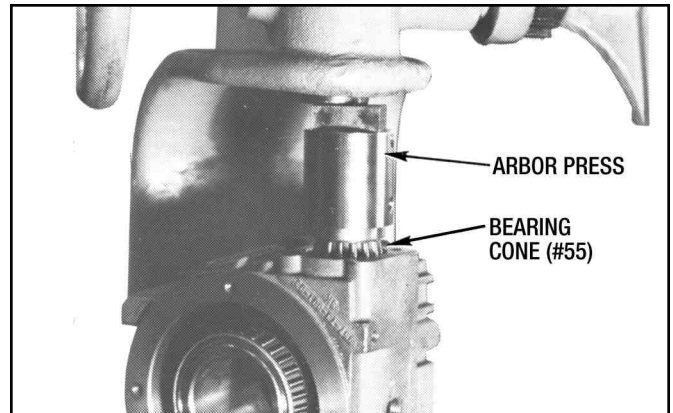

Figure 9.6 - Pressing Bearing Cone (#55) On To Worm Shaft
2. Press the other Bearing Cone (#55) onto the drive side of the worm shaft with an arbor press. (See Figure 9.6).